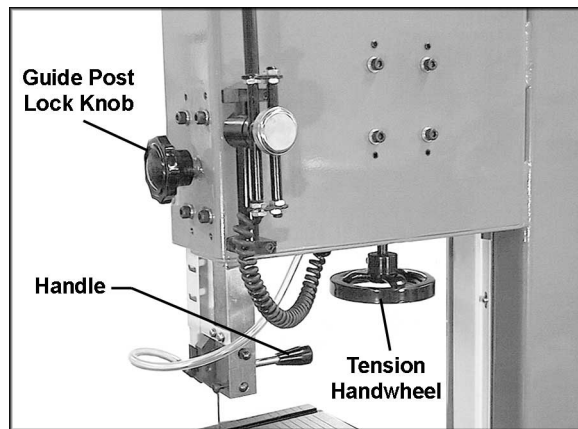

Figure 6
3. Loosen tension on the blade by turning the tension handwheel (Figures 6 and 7) to the left.
For effective cutting and for safety's sake, there should be a minimum amount of space between the top of the workpiece and the bottom of the blade guides. Loosen the guide post lock knob (see Figure 6) and use the handle (handwheel on 8020FW) to move the guide post, until the guides clear the workpiece by about 1/8". Retighten the lock knob.
3. Rotate blade tension handwheel (Figures 6 and 7) to the right to increase tension on the blade, or to the left to decrease tension on the blade.
5. If the blade tracks improperly, use the screws at the back of the saw (Figure 6) to adjust the model 8014FW. Loosen the socket head cap screws as needed to allow adjustment of the set screws.